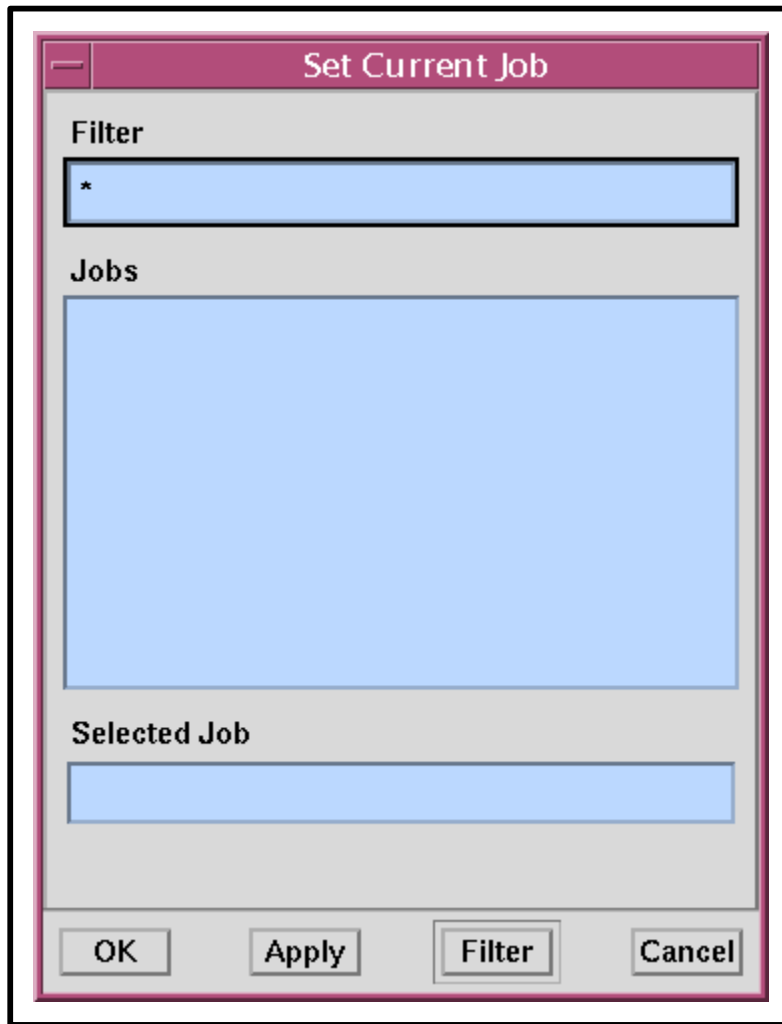

Figure 59. Set Current Job Dialogue Box
- **Set Current Job** dialogue box (Figure 59) is displayed.